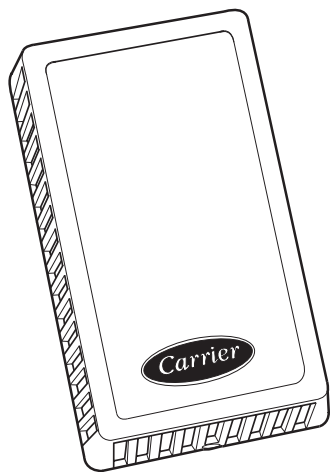

Fig. 5 — Space Humidity Sensor (P/N HL39ZZ001)
RELATIVE HUMIDITY (RH) SENSORS — The accessory field-installed RH sensors measure relative humidity of the air within the occupied space, in the return-air ductwork and/or in the outdoor air hood. The RH sensors provide input signals to the PSIO2 (control options) module. There are two types of RH sensors available, wall-mounted or duct-mounted. Humidity sensors require separate and isolated 24-vac power source(s). See Fig. 5.